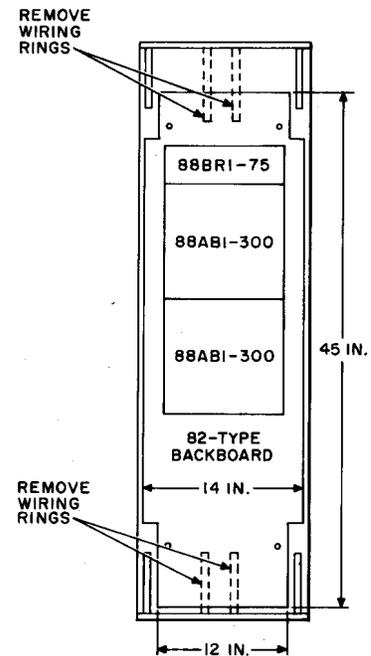

Fig. 8—Distribution Terminal Mounted in H-type Cable Terminal Section
6.03 Mount red wiring block in the *upper* part of the cable terminal section and blue wiring blocks in the *lower* part of the cabinet as shown in Fig. 8.